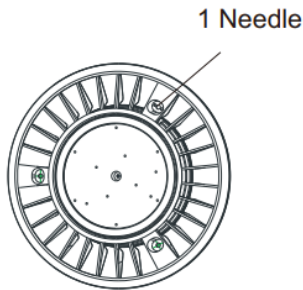

Figure 1
1. Find the power cord hole [Figure 1]